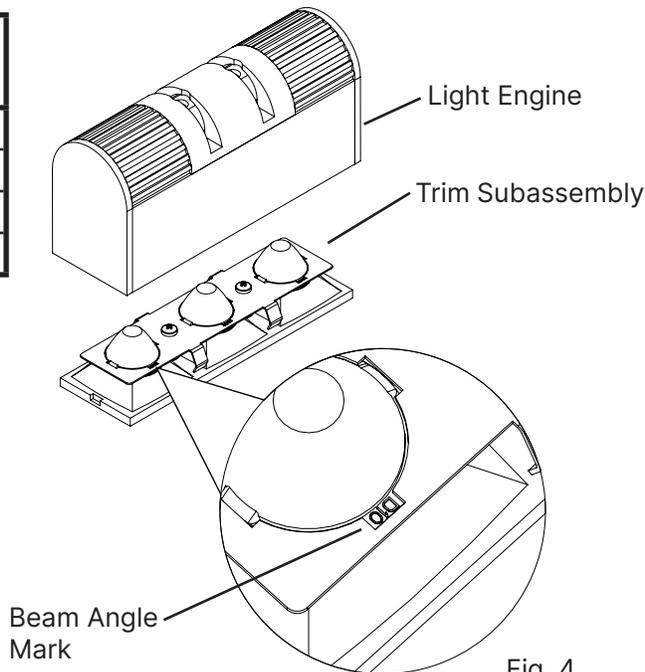

Fig. 4
1. Align **Trim Subassembly** with **Light Engine**. **Note: Beam Angle Mark** is visible on the **Trim Subassembly** (Fig. 4).